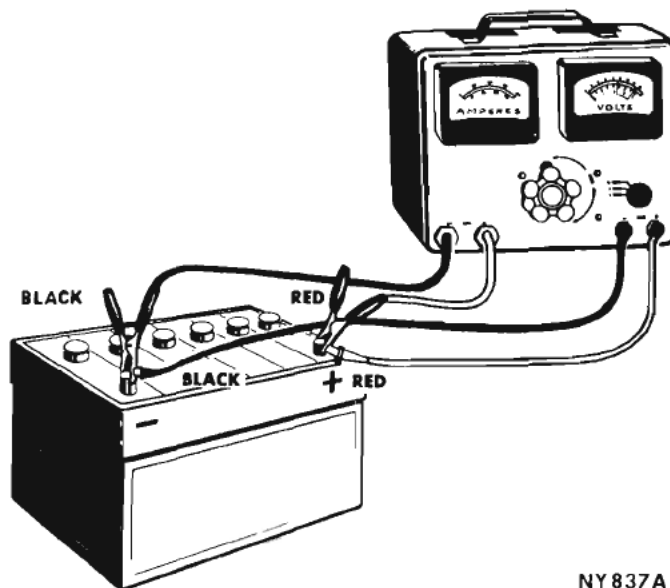

Fig. 2—High Rate Discharge Test
- (1) Turn the control knob of the battery starter tester to the **OFF** position.
- (2) Turn voltmeter selector switch to the 16 volt position on test units so equipped.
- (3) Connect the test ammeter and voltmeter positive leads to battery positive terminal. Connect the ammeter and voltmeter negative leads to the battery negative terminal (Fig. 2).
- (4) Turn the control knob clockwise until the ammeter reading is equal to three times the ampere hour rating of the battery.
- (5) Maintain this load for 15 seconds; the voltmeter should read 9.5 volts or more, which will indicate that the battery has good output capacity.
- (6) After the 15 second test, turn control knob to the OFF position.